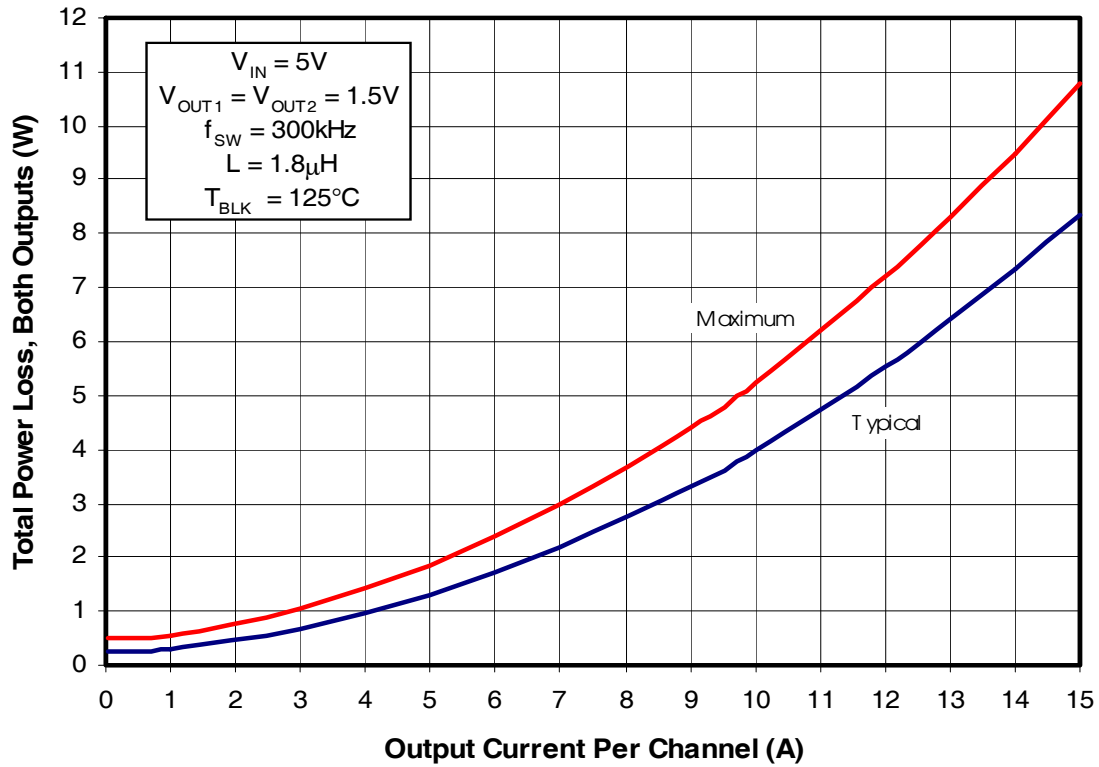
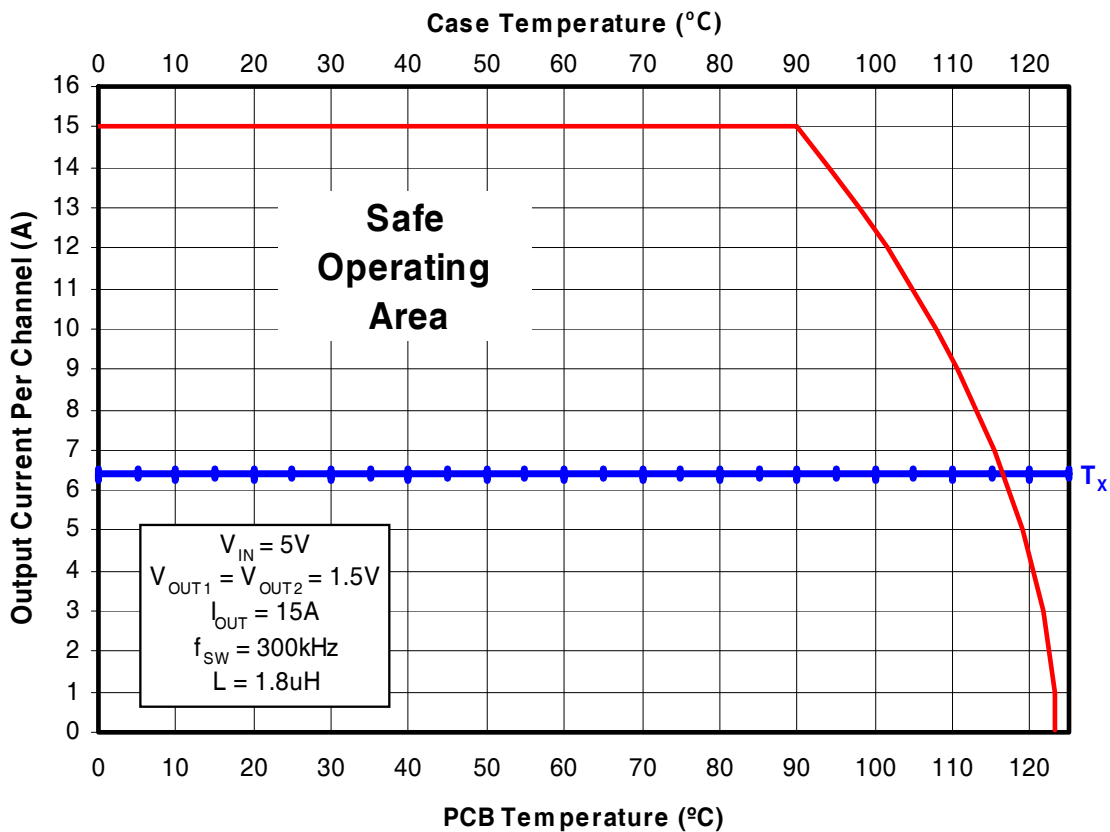
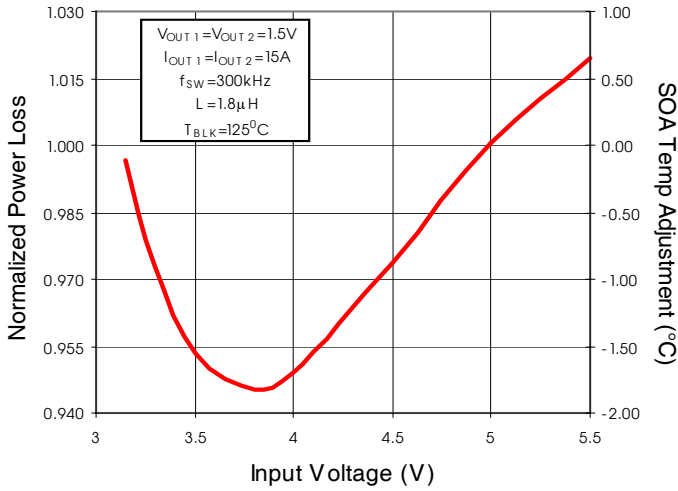

Fig. 2: Power Loss vs. Current
Fig. 3: Safe Operating Area (SOA) vs. T_{PCB} & T_{CASE}
Fig. 4: Normalized Power Loss vs. V_{IN}
To make adjustments to the power loss curves in Fig. 2, multiply the normalized value obtained from the curves in Figs. 4, 5, 6 or 7 by the value indicated on the power loss curve in Fig. 2. Remember that the power loss in Fig 2. is the power loss for 2 outputs operating with the same output voltage. If differing output voltages are used the initial power loss for each channel needs to be divided by 2. Then if multiple adjustments are required, multiply all of the normalized values together, then multiply that product by the value indicated on the power loss curve in Fig. 2. The resulting product is the final power loss based on all factors. See example no. 1.
To make adjustments to the SOA curve in Fig. 3, determine your maximum PCB Temp & Case Temp at the maximum operating current of each iP1201PbF. Then, add the correction temperature from the normalized curves in Figs. 4, 5, 6 or 7 to the T_x axis intercept (see procedure no. 2 above) in Fig. 3. When multiple adjustments are required, add all of the temperatures together, then add the sum to the T_x axis intercept in Fig. 3. See example no. 2.
- Output1 (Fig. 2) Maximum power loss = 5.3W /2 = 2.65W
(Fig. 4) Normalized power loss for input voltage \approx 0.97
- Output2 (Fig. 2) Maximum power loss = $8.25W / 2 = 4.13W$
- (Fig. 4) Normalized power loss for input voltage ≈ 0.97
- Output1 (Fig. 4) Normalized SOA Temperature for input voltage $\approx -1.0^{\circ}C$
- Output2 (Fig. 4) Normalized SOA Temperature for input voltage $\approx -1.0^{\circ}C$